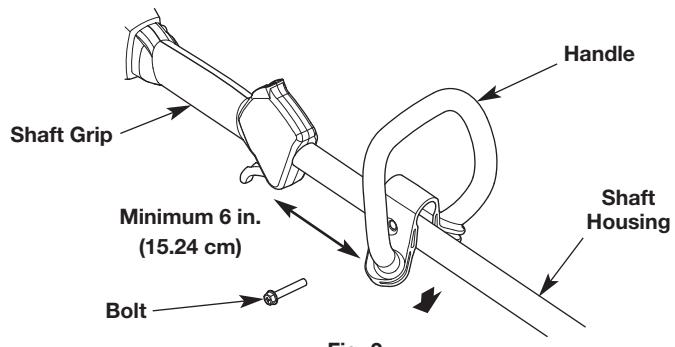

Fig. 2
1. Push the handle down onto the shaft housing (Fig. 2). The bolt hole in the handle should be to the right.
2. Insert the bolt into the bolt hole and push it through (Fig. 2). Tighten the bolt with a 3/8" socket, but do not tighten the bolt completely.
3. While holding the unit in the operating position (Fig. 7), move the handle to the location that provides the best grip. Place it a minimum of 6 inches (15.24 cm) from the end of the shaft grip (Fig. 2).
1. Loosen the bolt with a 3/8" socket (Fig. 2).
2. While holding the unit in the operating position (Fig. 7), move the handle to the location that provides the best grip. Place it a minimum of 6 inches (15.24 cm) from the end of the shaft grip (Fig. 2).